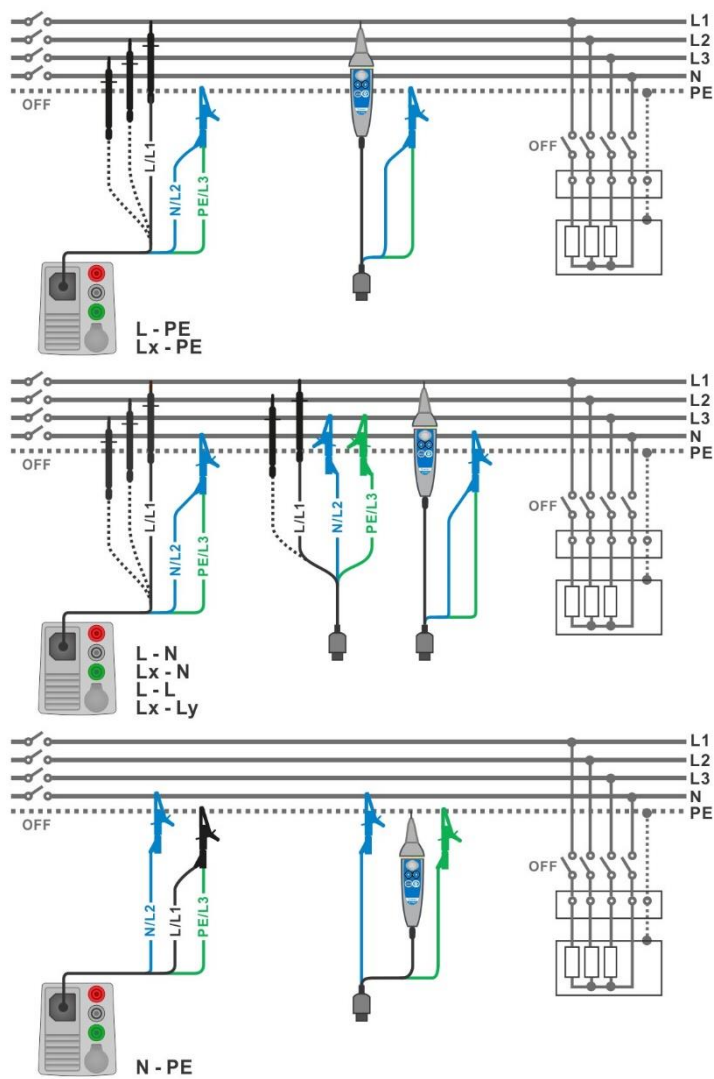
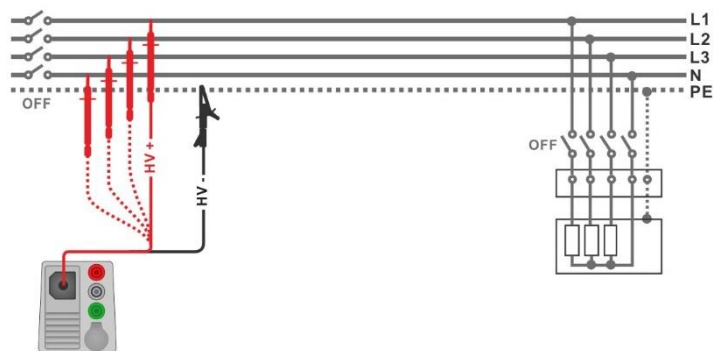

Figure 7.7: Connections of 3-wire test lead and Tip commander ( $U_N \leq 1$  kV)
Figure 7.8: Connection of 2.5 kV test lead ( $U_N = 2.5$  kV)
- › Connect test leads to object under test (see **Figure 7.7** and **Figure 7.8**).